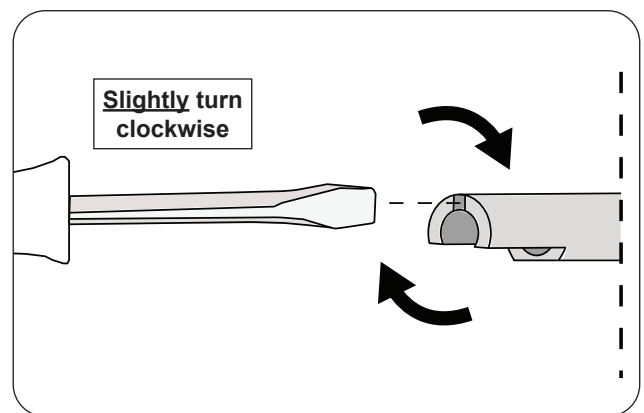

Fig. 41-2 Stem adjustment
2. Insert a flathead screwdriver into the split portion of the stem and **GENTLY** turn the screwdriver clockwise. Be cautious! Only a slight turn is needed as the stem is flexible. See Fig. 41-2.